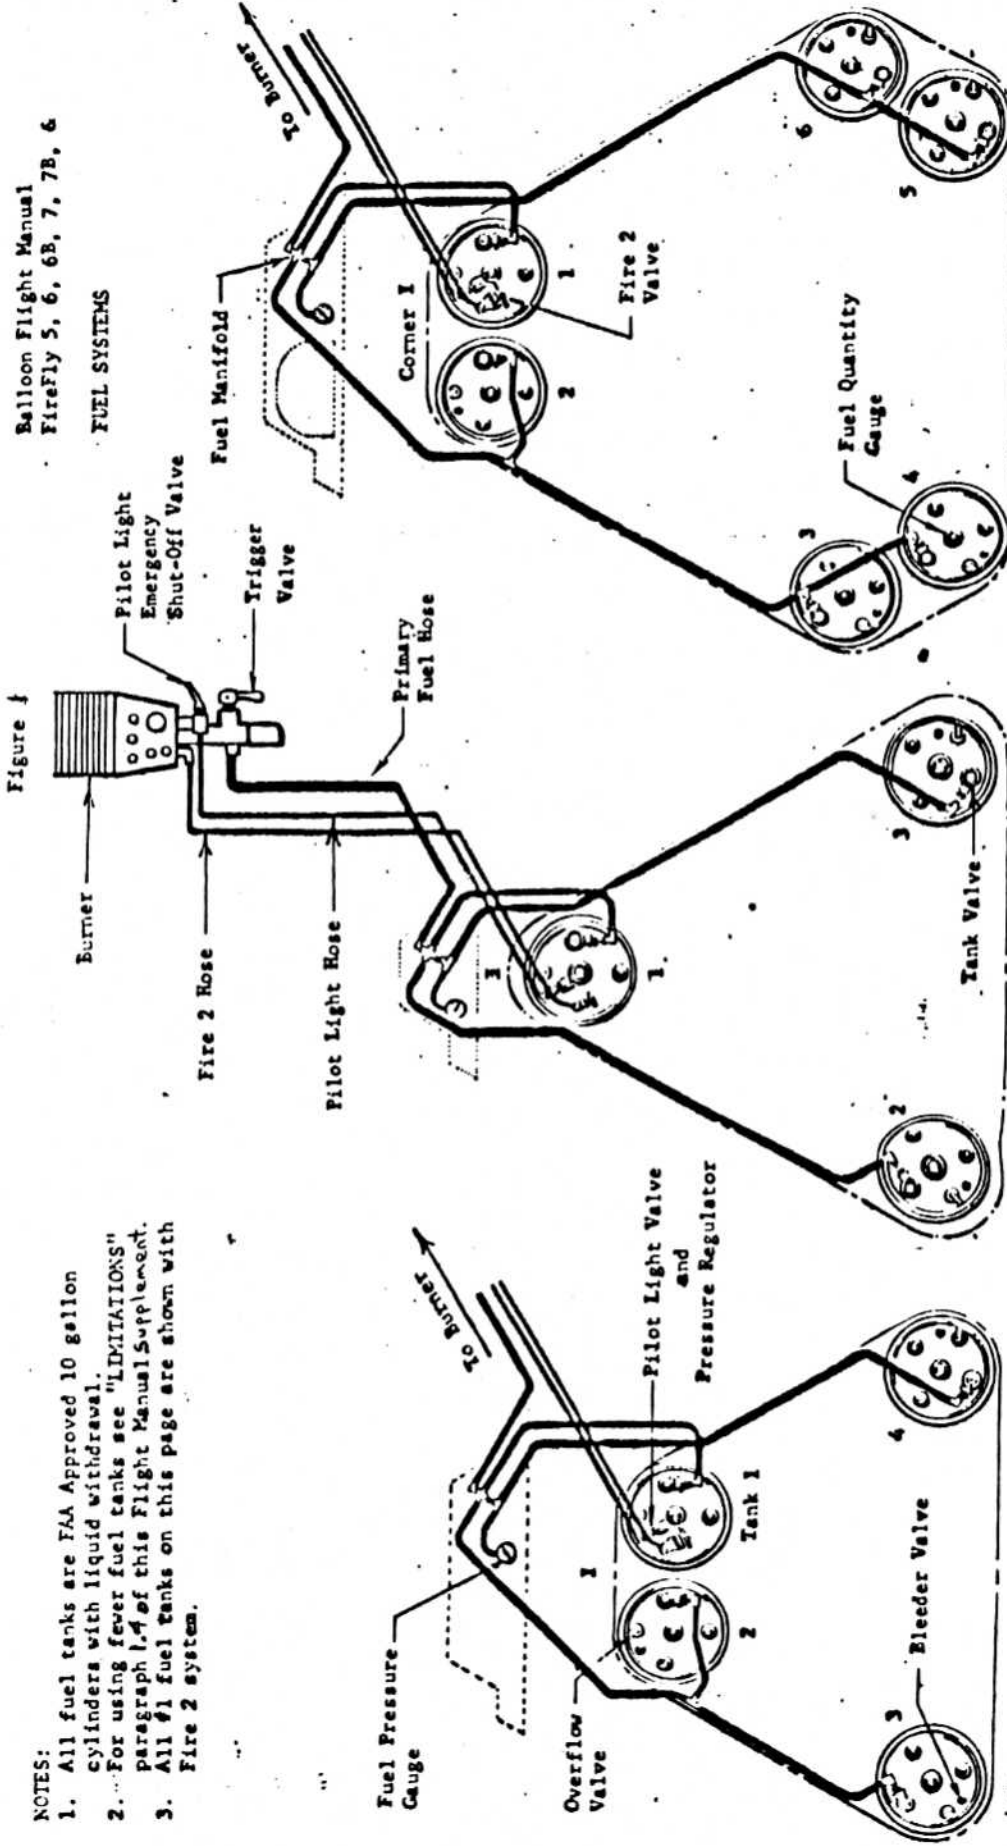
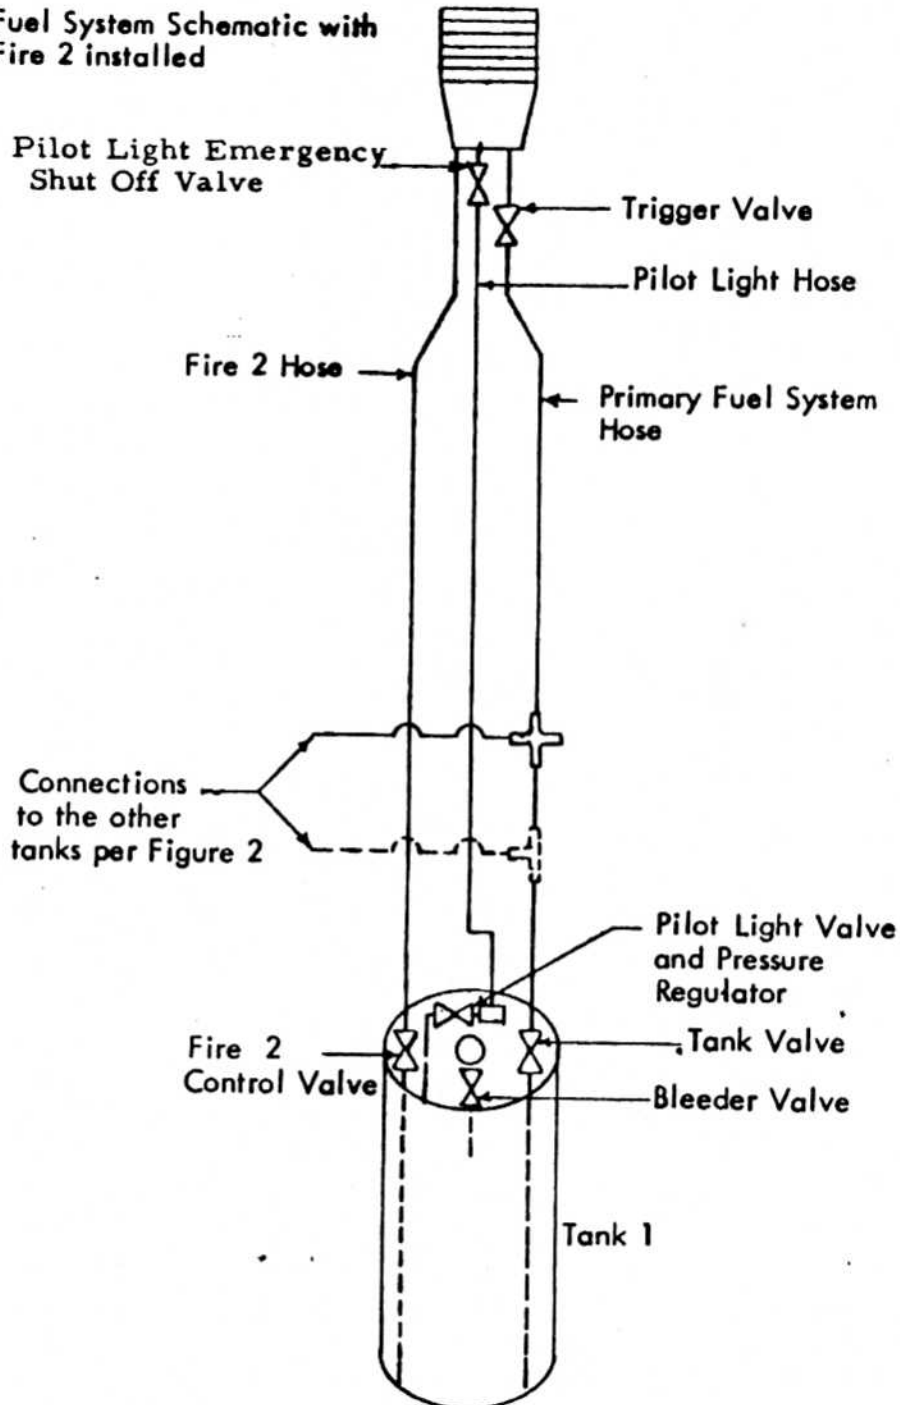

Figure 1
Figure 2 - Fuel System with Fire2
- 2.4.3 Fuel Management (fig 1. shows a fuel system schematic) A suggested procedure is to use Tank #1 until the fuel guage starts to indicate a decreasing quantity, thus insuring operation of the guage. Then use the other tanks in sequence leaving the remaining fuel in Tank 1 as a reserve. The system may be operated with 2 or more tank valves open. In this case fuel transfer between tanks may occur. If Fire 2 is installed, see fig. 2 for schematic. Fire 2 draws fuel from Tank 1 only. If Tank 1 should be emptied, fuel can be transferred into it through the primary fuel system by opening the primary fuel valves on Tank 1 and on the tank to be transferred from.